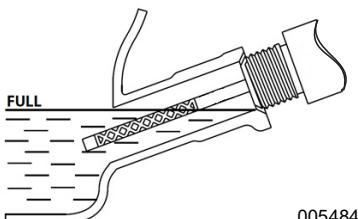

Figure 2-8. Safe Operating Range
6. See Figure 2-8. To check oil level, remove funnel and insert dipstick into oil filler neck without screwing it in.